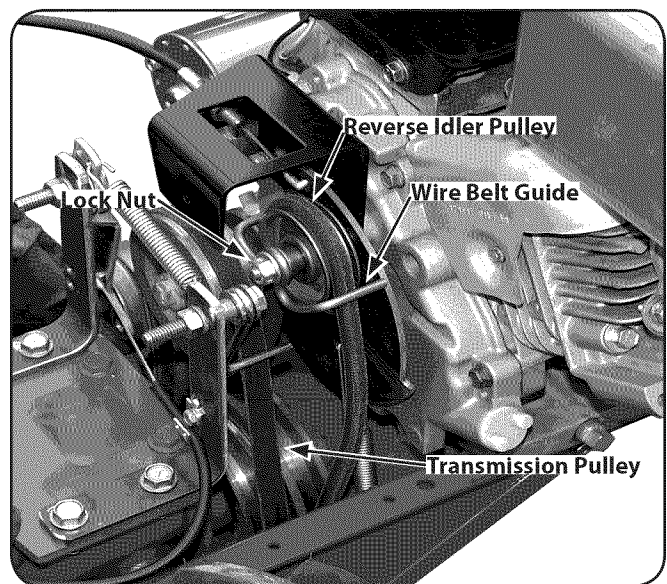

Figure 7-6
- Pull the reverse clutch belt downward and slip it off the transmission pulley. See Figure 7-6.